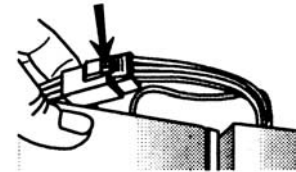

Figure 4
To detach main wire harness, use a flat blade tool or fingernail to press junction point between two connectors to release. (See figure 4).
4. Place end of copper tubing into water valve inlet port. Shape tubing slightly. Do not kink - so that tubing feeds straight into inlet port. See figure 4.